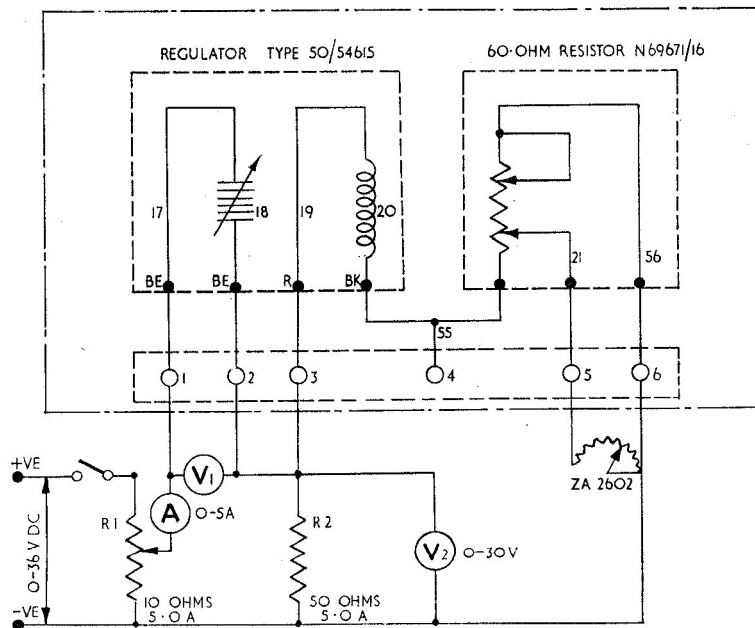

Fig. 2. Test circuit diagram
11. The unit should be connected as shown in the test circuit diagram (*fig. 2*). The unit should be tested on a ripple free d.c. supply, preferably obtained from batteries.